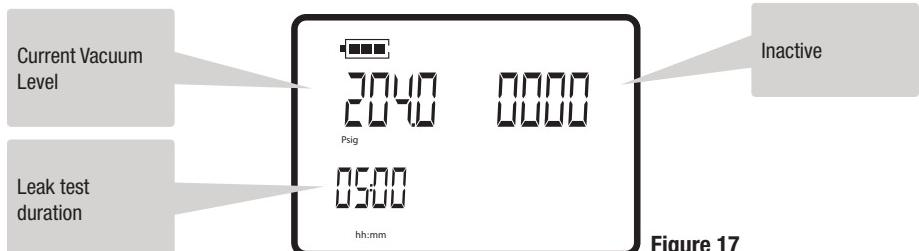

Figure 17
- 1) Press **SET** to store Vacuum Test duration time. **Vacuum Decay Test Screen** (**FIG.17**) will now be displayed.
- 1) At **Main Screen** (FIG. 1) press and hold **MODE** until “**PrO**” **Screen** appears (FIG 17). “**PrO**” will blink.
- 1) At main screen (**FIG. 1**) press and hold **MODE** until “**PrO**” screen (**FIG. 17**) appears. “**PrO**” blinks.